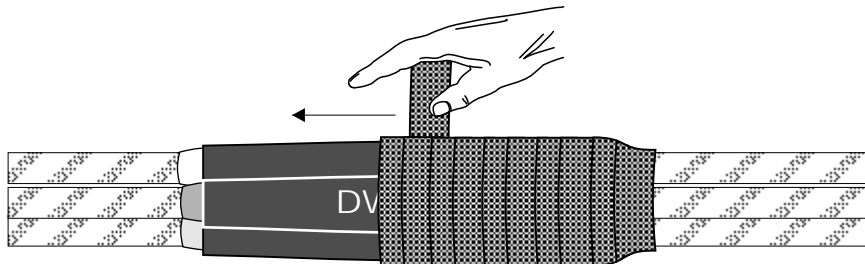

FIG 12
14. Pull the Cores together and wrap the roll of KM50 Copper Screening Bandage around the Insulation/Conductive Tubes extending onto the Copper Tape Screens as shown in Fig 12.